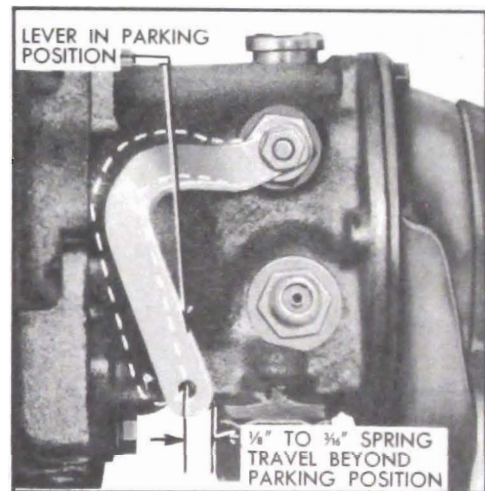

Figure 4-42—Spring Travel at Shift Lever
7. Check movement at lower end of transmission shift lever by pushing forward against spring pressure until a definite stop is felt. The spring travel or movement of lower end of lever should be $\frac{1}{8}$ " to $\frac{3}{16}$ " beyond the Parking (P) position. See figure 4-42. If spring travel is not within these limits the control valve operating rod in transmission is incorrectly adjusted and it will be necessary to remove the torque ball and adjust the operating rod as described in the Dynaflo Shop Manual.